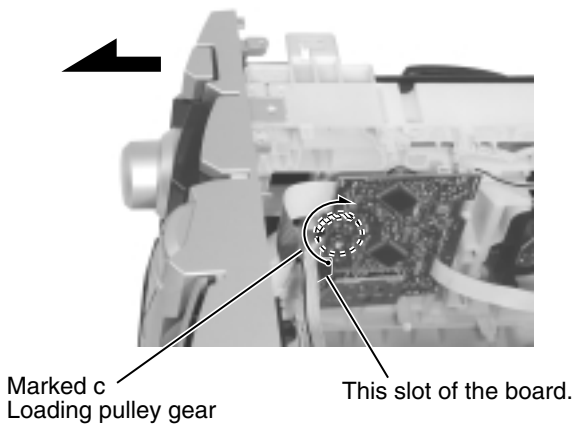

Fig.7
1. Turn the black loading pulley gear marked c from the back of the CD changer unit as shown in Fig.7 and draw the CD tray toward the front.